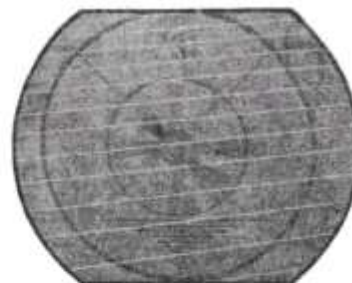

Figure 4. Adjust CONTRAST
- Better pictures may sometimes be obtained by changing the settings of the **BRIGHTNESS** and **CONTRAST** controls. See Figures 4, 5 and 7. Set the **BRIGHTNESS** control at a slightly different position and then adjust the **CONTRAST** control for best reception. Try several such control settings to determine the ones giving the most satisfactory picture.